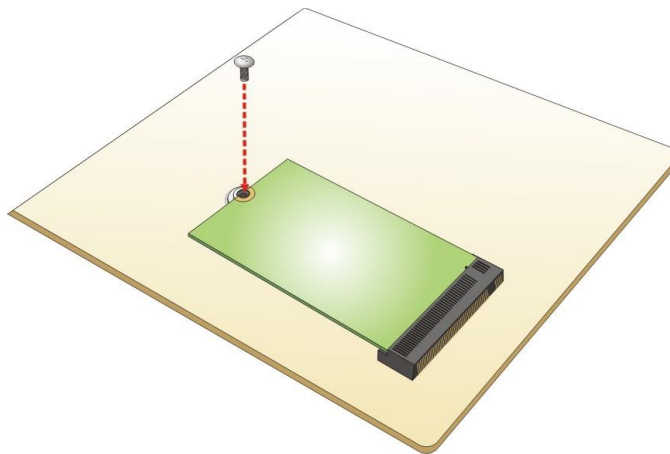

Figure 4-2: Securing the M.2 Module
- Step 4:** Secure the M.2 module with the previously removed retention screw (**Figure 4-2**).